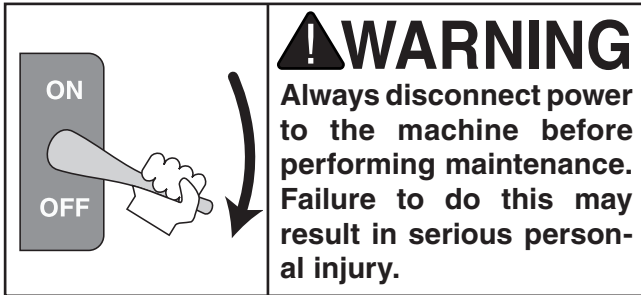

Figure 20. Dirty filter mark example.
7. Multiply the reading from **Step 6** times 2 (2x) and mark with the supplied red arrow (**Figure 20**). This is the dirty filter indicator mark. When the fluid reaches the red arrow, install new filters.